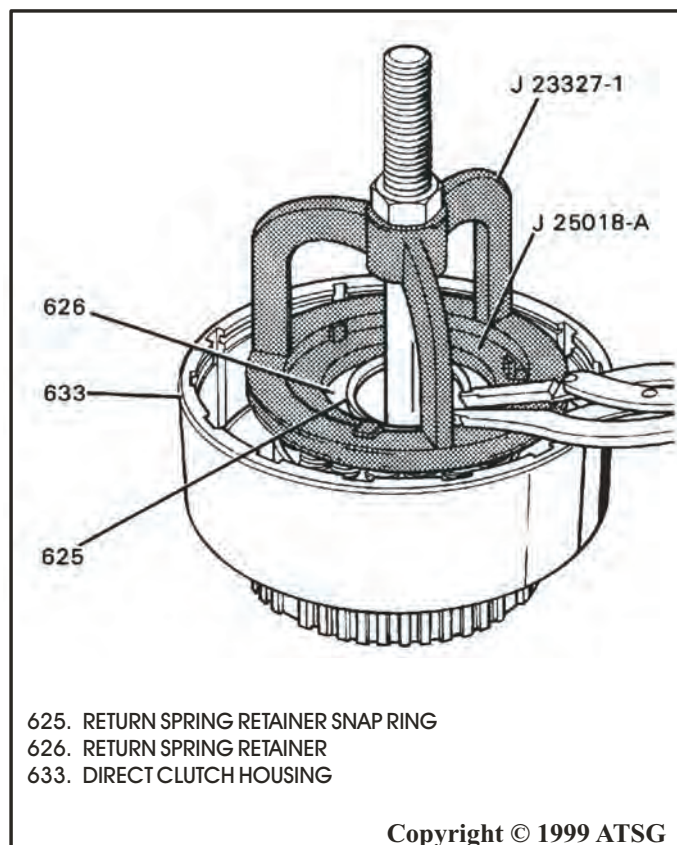
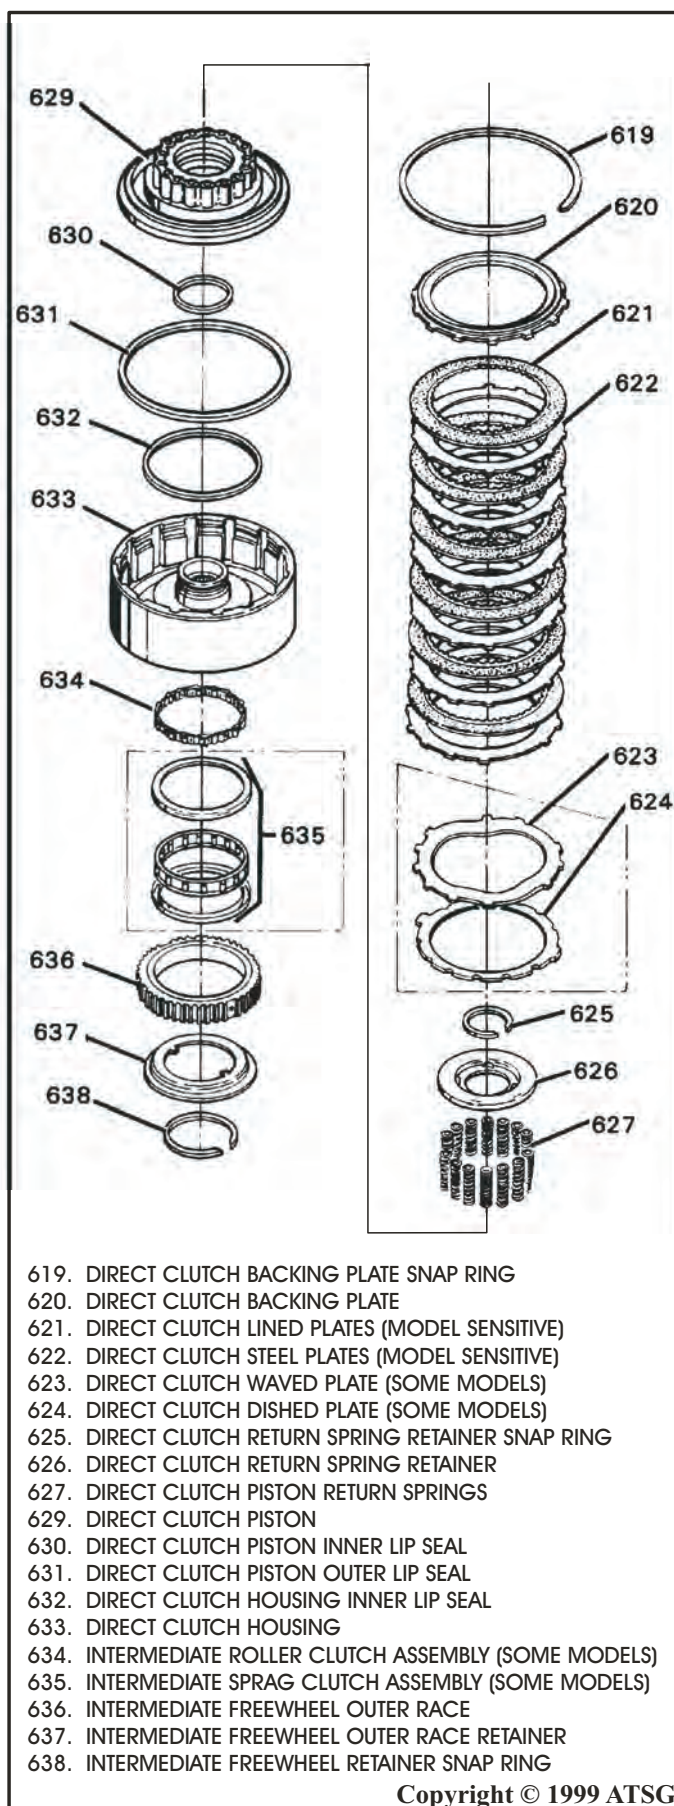

Figure 75
Figure 76
1. Disassemble the direct clutch housing using a spring compressor, as shown in Figure 75, and use Figure 76 as a guide for disassembly.
4. Notice in Figure 76 that some models use an intermediate roller clutch and some models use an intermediate sprag assembly.
5. Also notice in Figure 76 that some models use a direct clutch waved plate and some do not.
15. Compress the spring retainer and return springs and install the snap ring, using the compressor as shown in Figure 75.